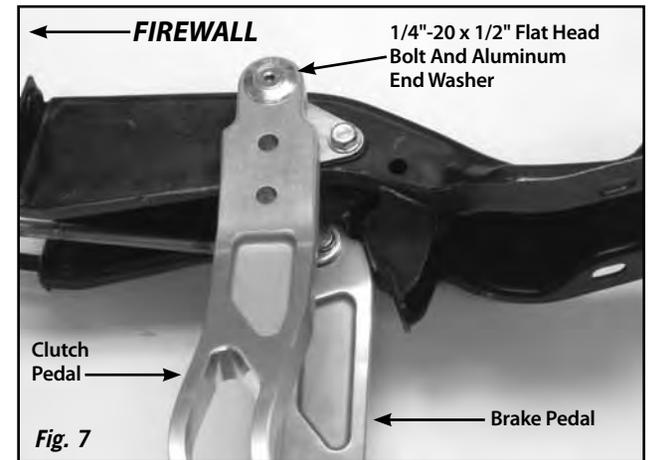

Fig. 7
**Step 4:** Install the clutch pedal onto the left hand end of the splined shaft. Install the 1/4"-20 x 1/2" flat head bolt and the aluminum end washer onto the left hand end of the splined shaft. **Fig. 7**